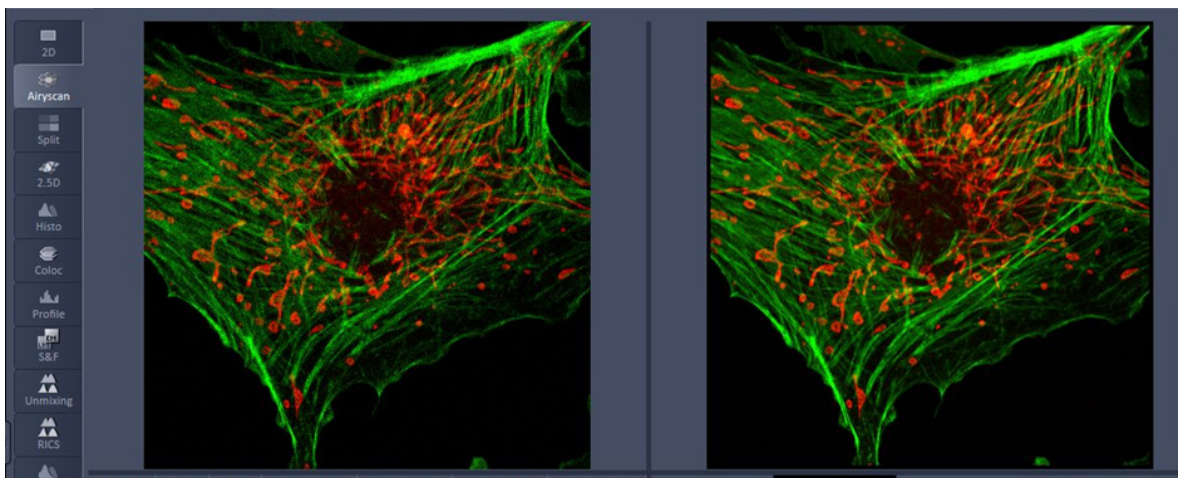

**Fig. 619 Airyscan View – Airyscan tab**
**Source image** (Fig. 619) shows the raw sum data useful for focusing, panning, and setting of laser power and detection gain.